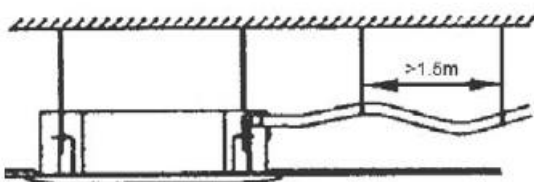

Fig.3
b) One support-point should be set every 1.5m to prevent the drainpipe from yielding. (Refer to Fig.3) or you can tie the drainpipe with connecting pipe to fix it. (Refer to Fig.4)